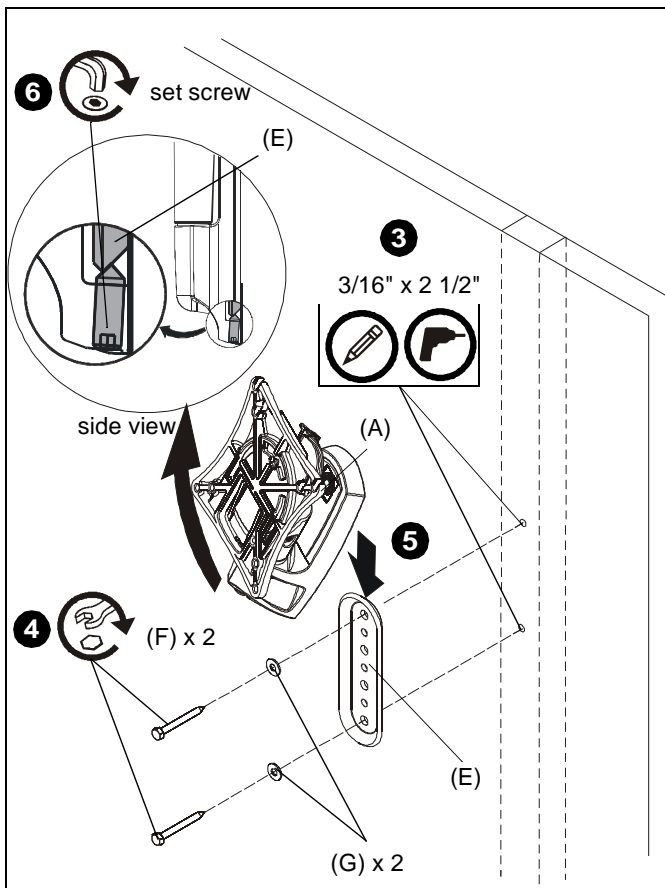

Figure 1
3. Use wall bracket to mark and drill two 3/16" x 2 1/2" holes in wall at desired mounting location. (See Figure 1)
4. Use two 1/4-2 1/2" hex head lag screws (F) and two 1/4" washers (G) to install wall bracket (E) onto wall. (See Figure 1)
5. Hang wall mount (A) over wall bracket (E). (See Figure 1)
6. Secure wall mount (A) to wall bracket (E) by tightening set screw. Ensure set screw engages back side of wall bracket (E) to properly secure mount. (See Figure 1)